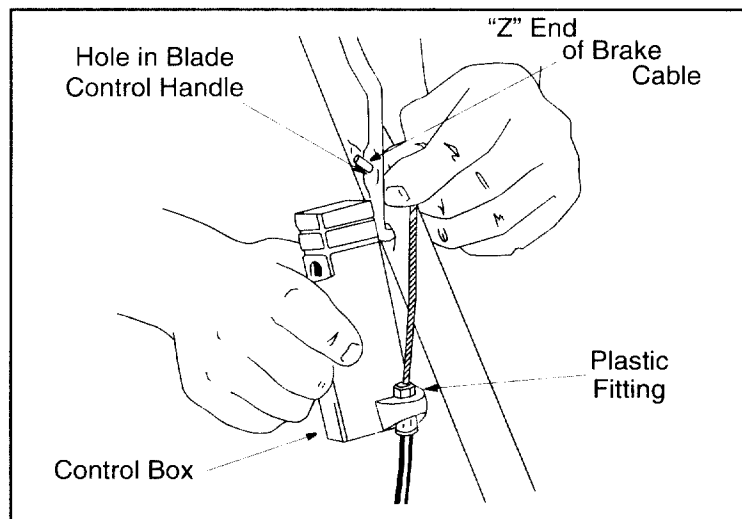
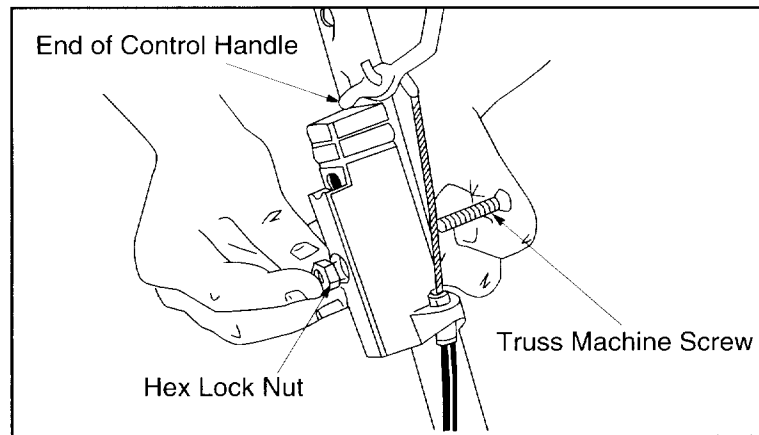

Figure 6
Figure 7
- Holding the control box near the left side of the upper handle (control box must be inside the handle), hook the "Z" end of the brake cable into the control handle from the **outside** to the **inside**. See Figure 6 and Figure 7.
- Place the control box on the upper handle just below (touching) the end of the control handle as shown in Figure 7. Secure with hardware removed in step one by placing hex lock nut into the indent on the inside of the control box. Screw the truss machine screw into the hex lock nut.